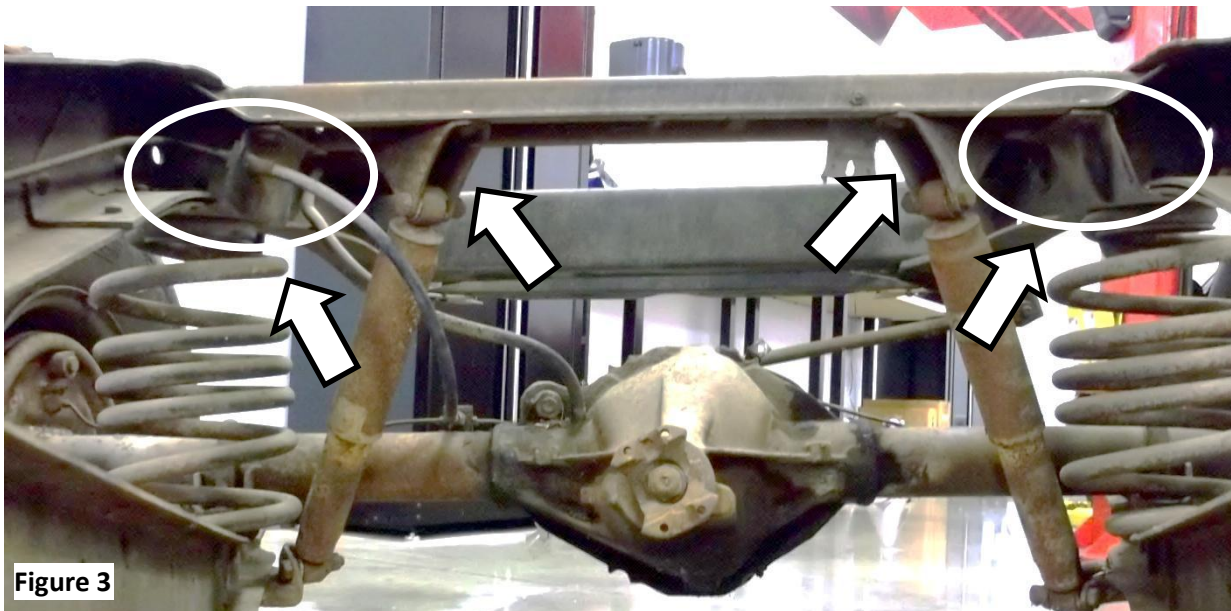

Figure 1
6. The factory panhard bar mount on the left side frame rail and the gusset plate direct above the mount can now be removed. Remove the rivets with a grinder and punch and/or an air chisel. See **Figure 1**.